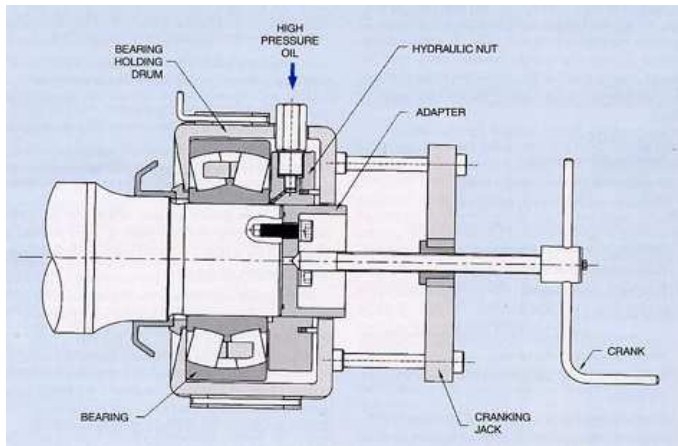

Fig: 5.0 Dismounting of Bearing
- For dismounting roller bearings, a special hydraulic dismounting equipment is used (see fig. 5.0). Following is the procedure for dismounting of roller bearing - Oil is injected between the journal and bore of the inner ring with high pressure, which expands inner ring resulting in breaking of interference. The bearing becomes loose on the journal and slides over it. The bearing is then removed from the journal and sent to the cleaning plant. Bearing after cleaning is thoroughly inspected for defects.